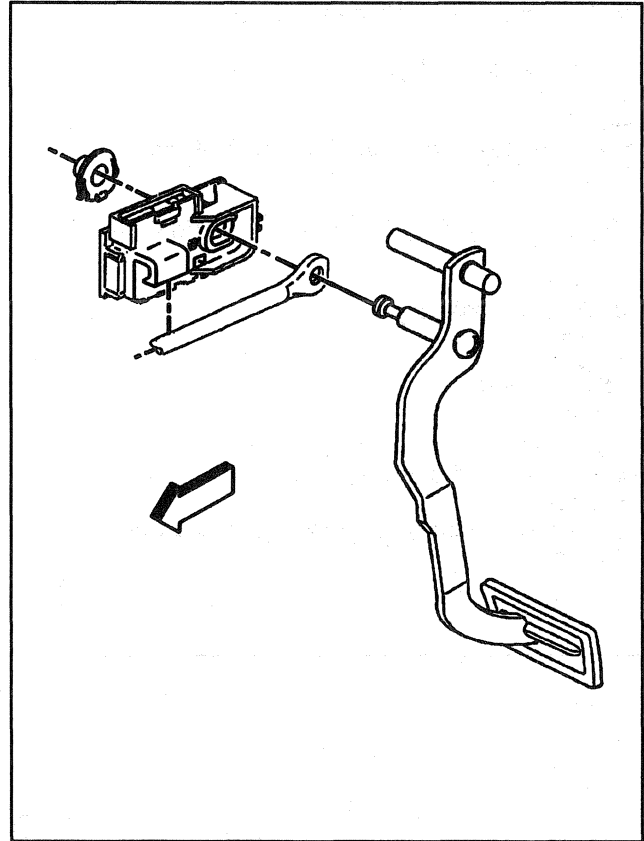

Figure 5—Pushrod Mounting
7. Pushrod and stoplamp switch (Figure 5).